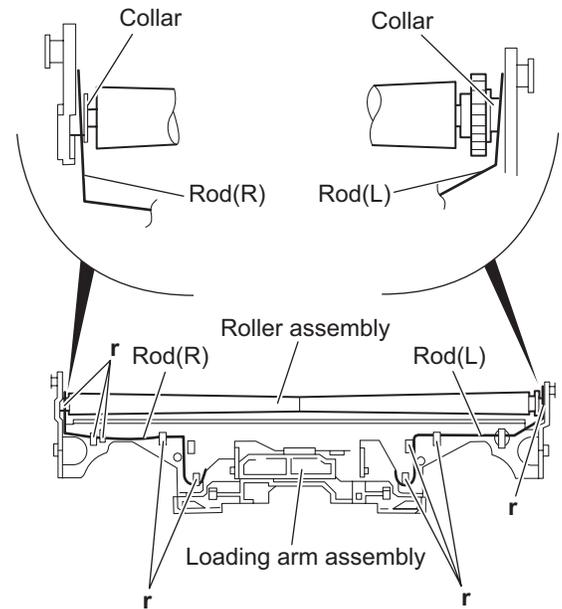

Fig.15
3.2.8 Removing the rod (L), rod (R) and roller assembly (See Figs.15 and 16)
- From the bottom side of the loading arm assembly, release the rod (L) and (R) from the joints *r*. (See Fig.15.)
After attaching the roller assembly to the loading arm assembly, attach the rod (L) and (R). Then attach the rods to the right and left collars of the roller assembly. (See Fig.15.)